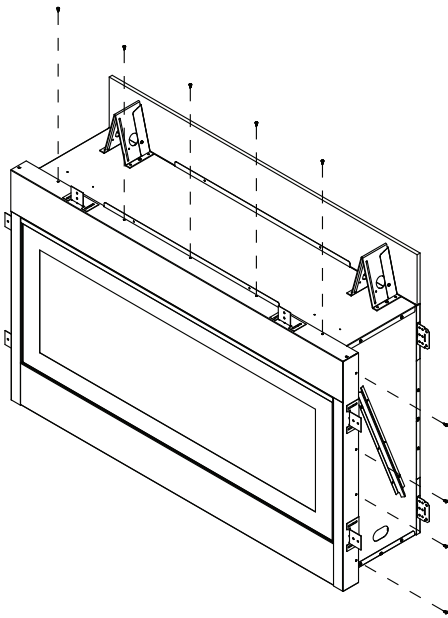

Figure 9
12. Install the outer stainless face and attach with five (5) stainless screws across the top and four (4) screws on both the left and right side of the face. See Figure 9.